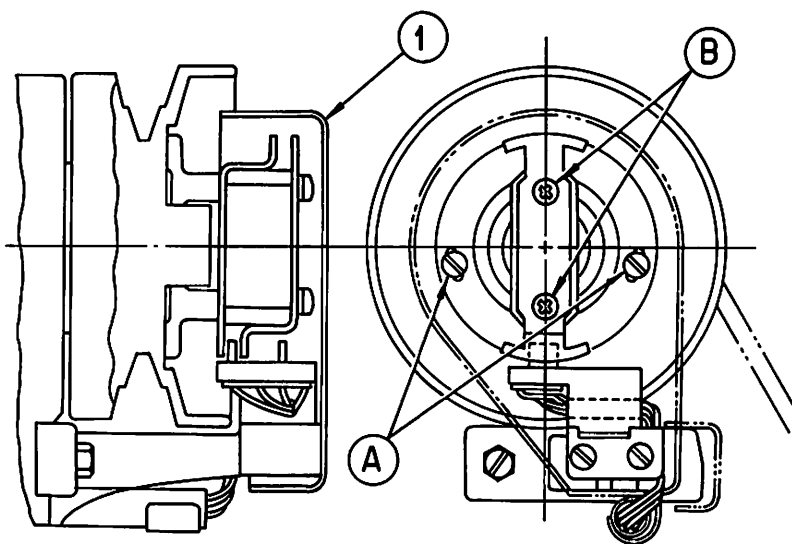

Fig. 36
10. Adjusting the position of the synchronizer (Fig.36)